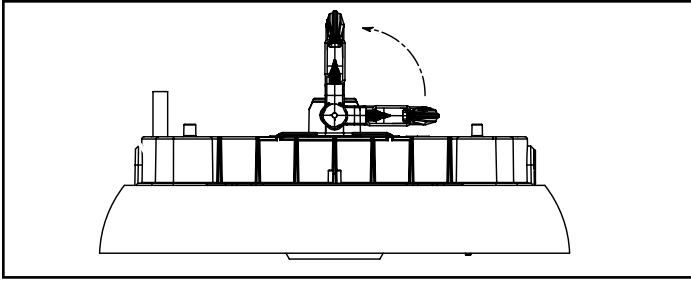

Figure 1.
1. Install hook. (Figure 1.)
2. Flip up hook 90-degrees. (Figure 1)